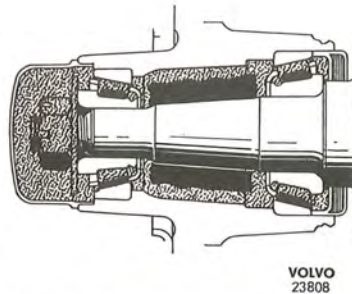

Fig. 7-21. Lubrication of front wheel bearing
8. Grease the bearing with the help of a pressure greaser. If there is not one available, pack the bearings by hand with as much grease as there is room for between the roller retainer and inner ring of the bearing. Also apply grease to the outer sides of the bearings and on the outer rings pressed into the hubs. The cavity in the hub is filled with grease all round up to the smallest diameter of the outer ring of the outer bearing, see Fig. 7-21.